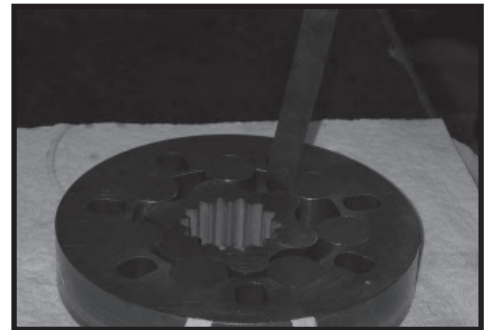

Figure 16
- 11. Place rotor set (8) and wear plate (9) on a flat surface and center rotor (8A) in stator (8B) such that two rotor lobes (180 degrees apart) and a roller vane (8C) centerline are on the same stator centerline. Check the rotor lobe to roller vane clearance with a feeler gage at this common centerline. If there is more than .005 inches (0.13 mm) of clearance, replace rotor set. SEE FIGURE 16.